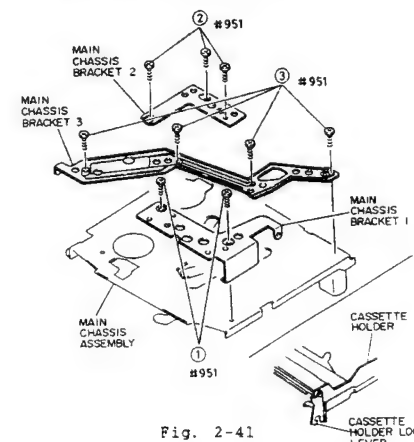

Fig. 2-41
- 1) Remove two (2) screws holding the main chassis bracket (1). (See Fig. 2-41)
- 2) Remove three (3) screws holding the main chassis bracket (2).
- 3) Remove four (4) screws holding the main chassis bracket (3).